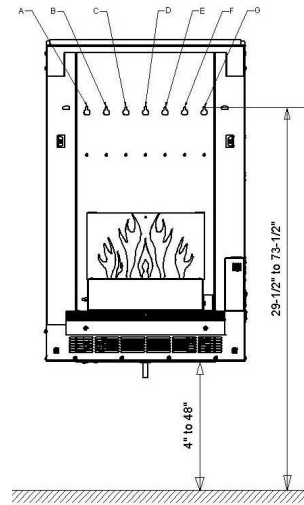

Figure 2
4. The second mounting point should be picked such that it is farthest (to the left or right) relative to the first one among the seven keyholes (A to G shown in figure 2) on the fireplace for wall mounting, these keyholes are 2" apart. For example, if you plan to use hole B as the first mounting hole, the second mounting hole must be G. Other available combinations are A-G, C-G, A-F, A-E, A-D and D-G.
(Fig. 2)